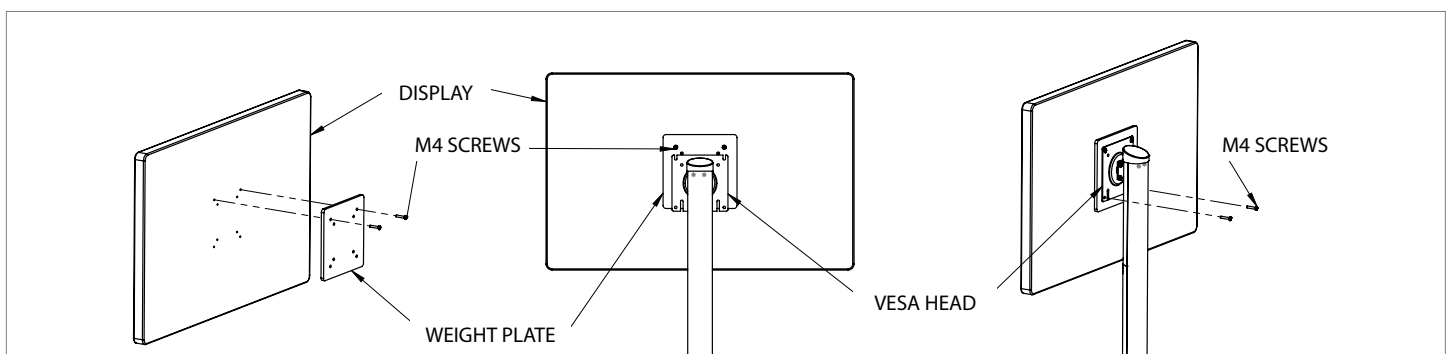

Figure 3
3. Partially thread **2x M4 22 MM SCREWS** (provided) through the **COUNTERWEIGHT PLATE** and into top 2x VESA holes on the **DISPLAY** (not provided) (**Figure 3**).
4. Hang the **DISPLAY** and **COUNTERWEIGHT PLATE** from 2x slots on the VESA Head (for VESA 100 use outer slots, for VESA 75 use inner slots). Ensure slot opening is facing up for the configuration needed (**Figure 3**).
5. Insert remaining **2x M4 22 MM SCREWS** through the **COUNTERWEIGHT PLATE** and into the **DISPLAY**. Tighten all **SCREWS** (**Figure 3**). If the thread depth is short in the **DISPLAY**, place **1x** or **2x WASHER** as spacer between the VESA head and **SCREW** as required.